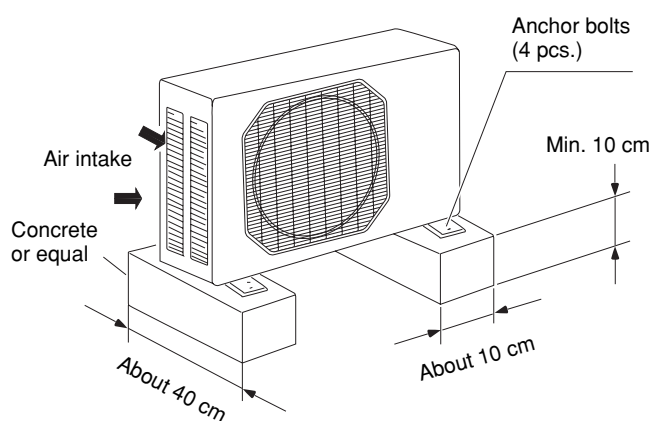

Fig. 5c
- provide a solid base (level concrete pad, concrete block, 10×40 cm beams or equal), a minimum of 10 cm above ground level to reduce humidity and protect the unit against possible water damage and decreased service life. (Fig. 5c)